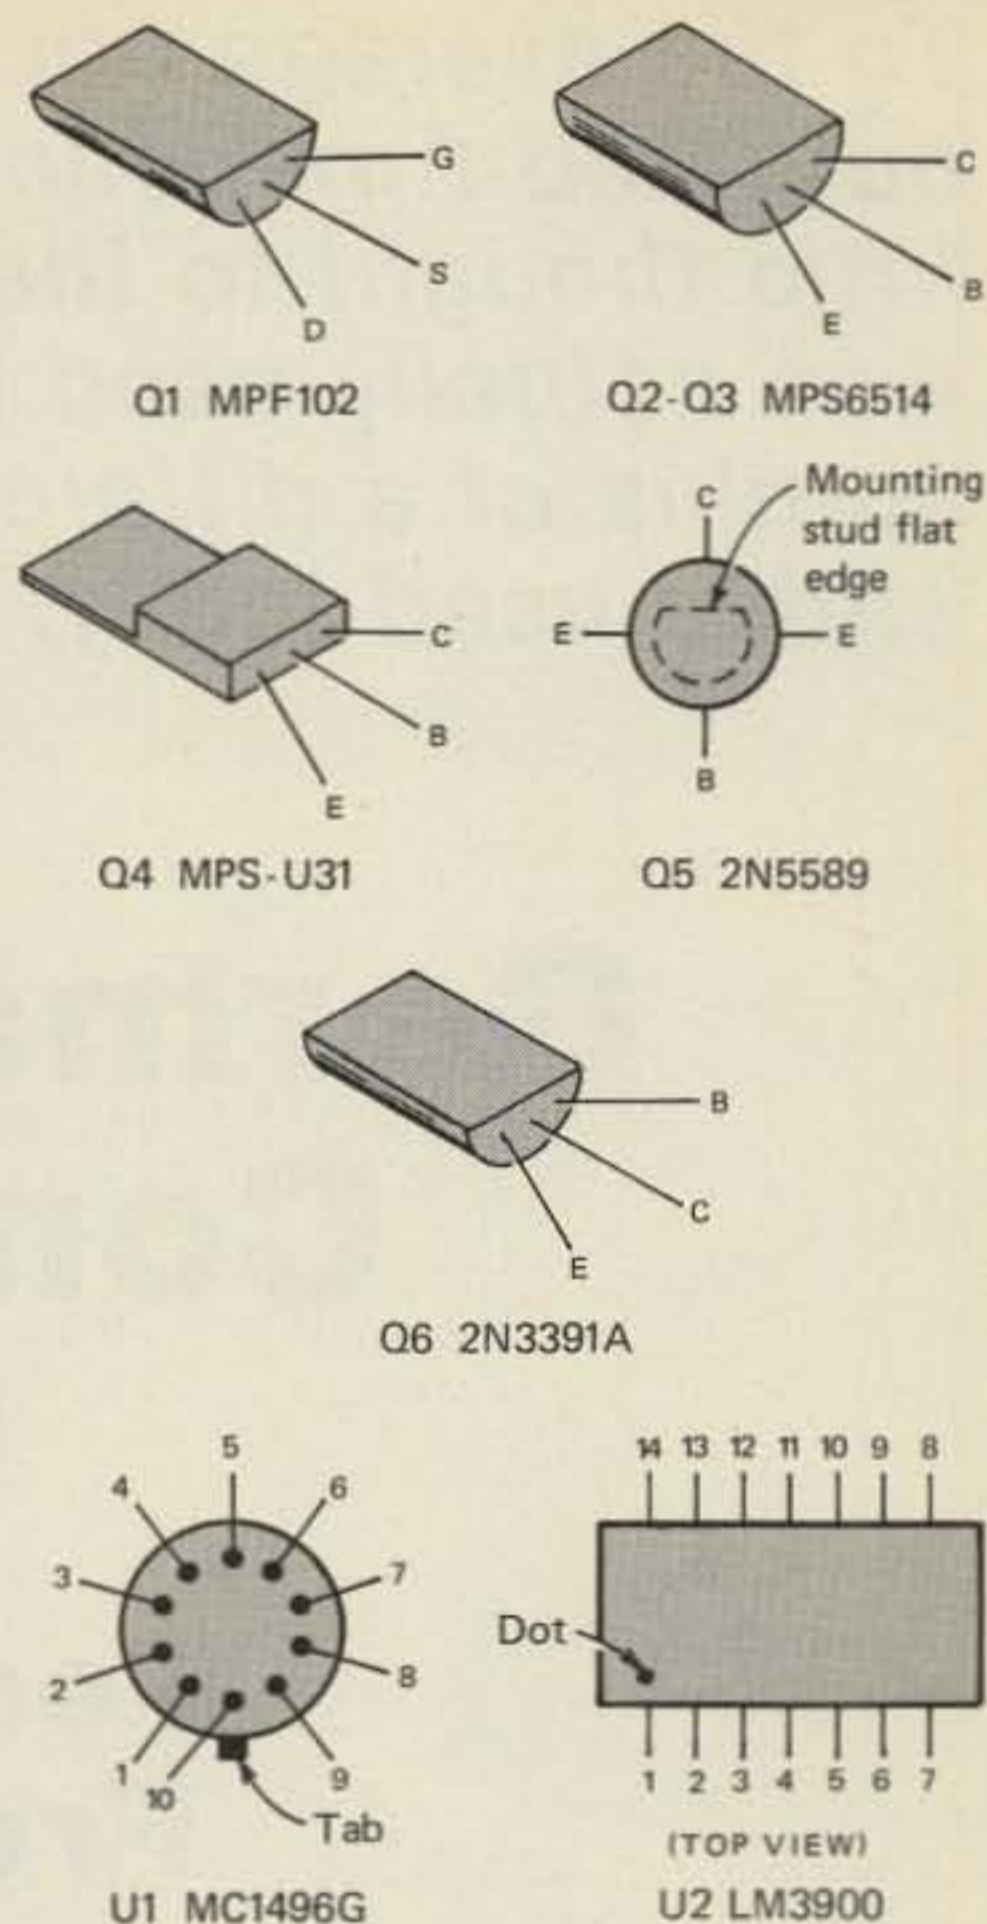
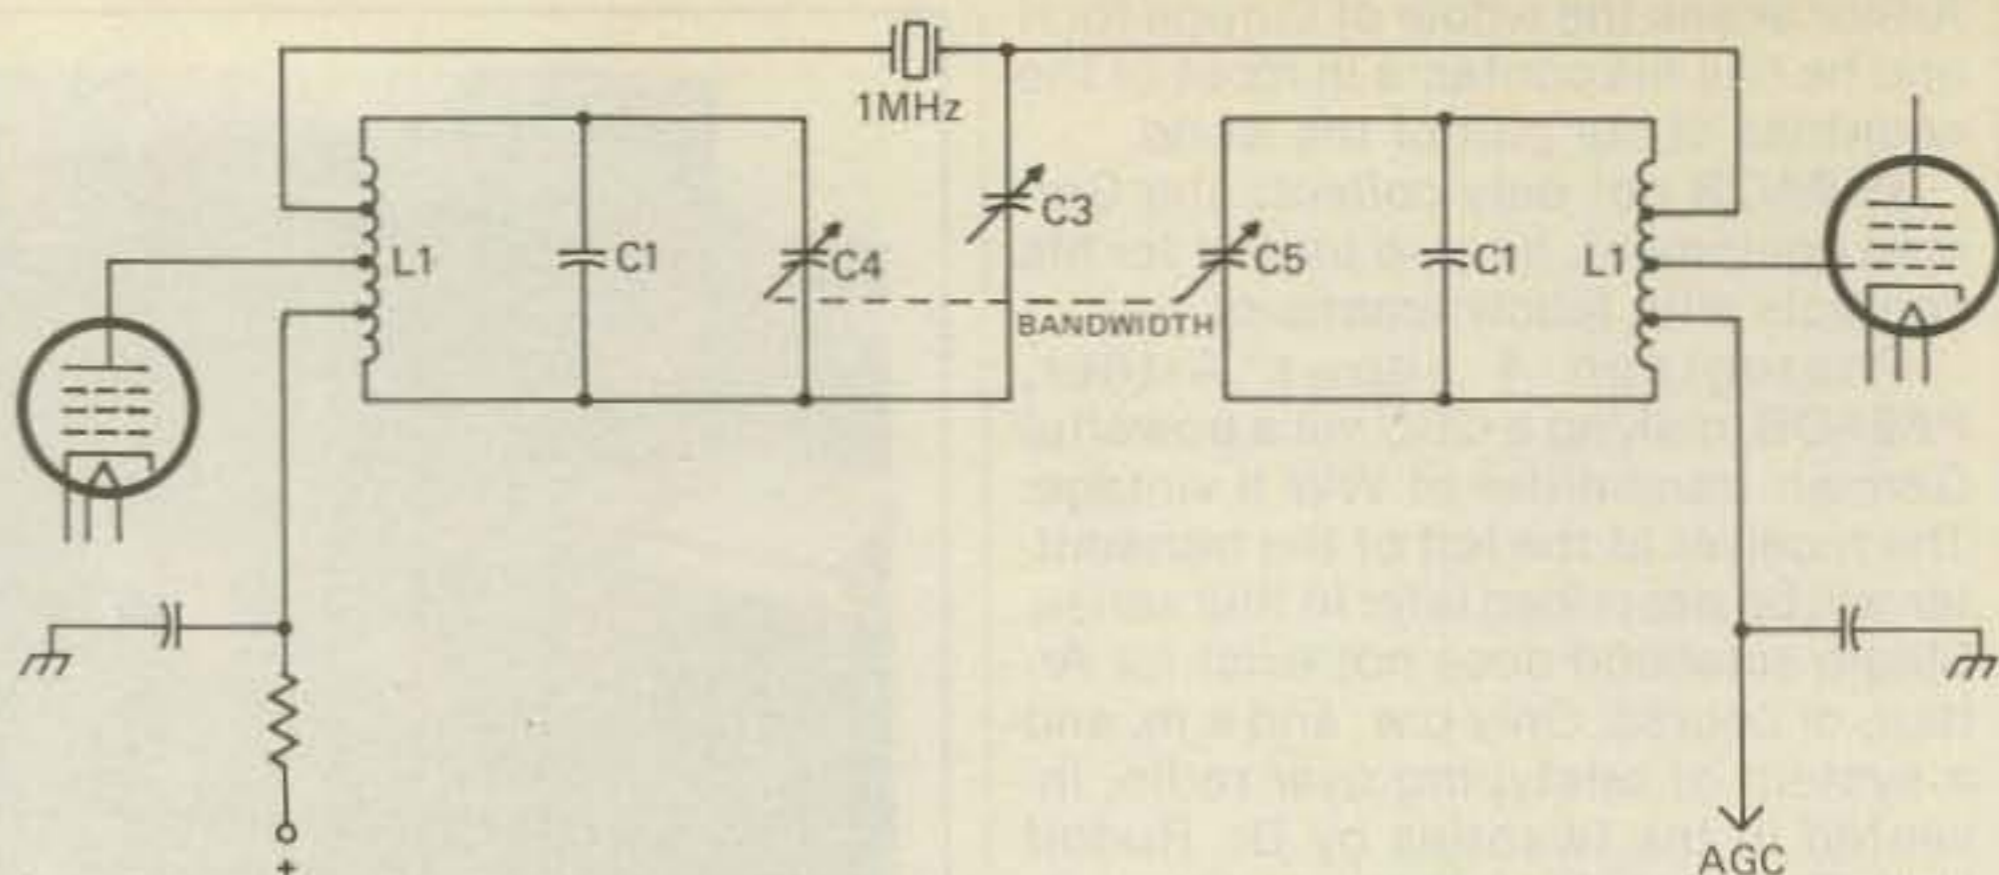
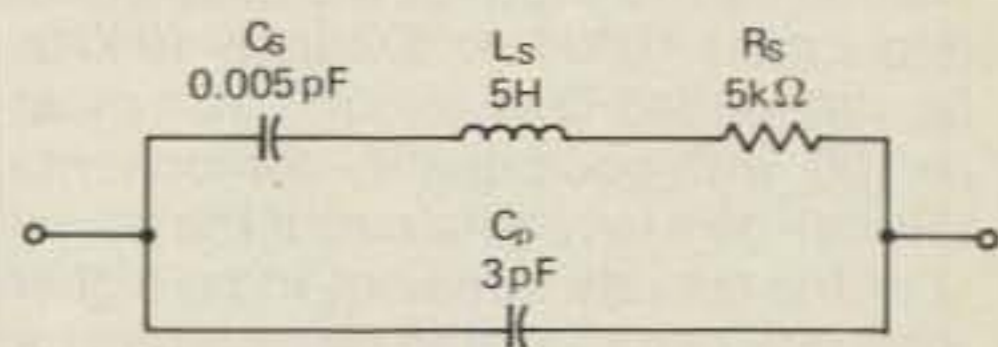

Fig. 3- Active device connections.
Fig. 1- Quartz crystal bandpass filter with variable bandwidth as can be found in several German World War II superheterodyne receivers.
Fig. 4- Equivalent electrical circuit of a quartz crystal resonator. The element values indicated are typical for a 1 MHz crystal.
Fig. 1- This material was first produced for the QRP Column in February, 1979. That Column and others led to this construction project. (A) is the parts placement for the original Viking 5 transmitter pc board. (B) is a full sized template for that transmitter. (C) is the coil winding data for the broadband 1:4 balun transformer, T1.
Transmitter assembly and adjustment can be attempted last. A complete discussion of the transmitter circuit and adjustment was provided in the initial article about the circuit (CQ, February, 1979), and, incidentally, the circuit and p.c.b. design were reproduced in the Vackar v.f.o. article (CQ, April, 1979) with a serious circuit error in the form of the omission of C49!! For adjustment of the transmitter, the above mentioned instruments are useful, and if possible, an oscilloscope is most helpful in monitoring signal purity. First, connect the v.f.o. to the transmitter input with a short piece of coax, and verify that the r.f. voltage appearing at the base of Q4 is roughly equivalent to the figure shown in fig. 1 of Part 1. Momentarily disconnect RFC4, removing B+ from the final, key Q4 while monitoring r.f. output at the antenna terminal and adjust C46 for maximum indication of output across a 52 ohm dummy load. This should be on the order of 0.3-0.6Vrms. If a scope is available, monitor waveform purity during this step and the next. Once C46 is adjusted, reconnect RFC4, and key the transmitter while monitoring r.f. output to the dummy load for signal purity and power level. Power output may be calculated from $P_o = V_{rms}^2/R$, where the square of the rms voltage developed across the load is divided by the resistance of the load. Some readjustment of C46 may be necessary to peak the r.f. output. Parasitics can be detected on the receiver as "hash" or white noise on frequencies above and below the transmitter frequency. If a scope is available, some peaking of output can be accomplished by compressing or spreading the turns of L7 while monitoring waveform purity. In the several versions of this circuit constructed so far, the given values all produced very similar results with respect to power output and signal purity. R33 establishes Q4 stage gain, and with the value shown, r.f. output from
Fig. 3- Constant-K type bandpass filter with component values calculated for a passband of 10 kHz wide and a center frequency of 1 MHz. Note the "impossible" values of the capacitor and coil in the series tuned circuit.
The circuit diagram of this filter is shown in fig. 1. The filter is positioned between i.f. amplifier tubes. A second filter of the same configuration follows the tube on the right. Upon casual inspection one could easily conclude that this filter is of the familiar type to be found in many popular American communication receivers and introduced in the early thirties by James Lamb in his "Single Signal Superhet." These filters feature a sharply peaked response plus a rejection notch that can be moved up and down in frequency by means of "phasing capacitor" C3. But this conclusion would not be correct. The German filter exhibits a real bandpass response, that is to say a flat passband and symmetrical filter slopes at the transitions between pass and stopbands. How is it possible to realize such a response with just a single quartz crystal resonator?
In fig. 3 a constant-K bandpass filter is shown that has been designed for a center frequency of 1 MHz and a pass band of 10 kHz wide, just as the crystal filter in the "Köln" receiver. The component values for L1 and C1 have been taken equal to L1 and C1 in fig. 1 for the "Köln" filter. Now look at the series resonant circuit L2C2; don't C2 and L2 have "impossible" values? Indeed, especially L2 could never be constructed with a self-inductance of 3.6 henry at 1 MHz. To produce a capacitor of 0.007 pF isn't simple either. But wait, let us take a look at the equivalent electrical circuit of a quartz crystal resonator, as shown in fig. 4. This consists of a series tuned circuit and a parallel capacitor that represents the capacitance of the crystal electrodes. The values for the elements of the equivalent circuit shown in fig. 4 are typical for a 1 MHz crystal. These values are very near to those of the series circuit C2L2 in fig. 3! So it looks like we could replace C2L2 by a suitable quartz crystal and so obtain a bandpass filter at 1 MHz with a 10 kHz wide pass band. But what about the earlier statement that the elements of a constant-K filter were supposed to be without losses? R_s of 5 kilo-ohms in fig. 4 certainly looks like a high loss. But be careful with that conclusion; what really matters is the Q of the series tuned circuit. And Q is equal to the reactance of C_s or L_s at 1 MHz, divided by R_s . And that works out to a Q of 6280. That value is so high that the crystal, acting as the series tuned circuit, can be considered lossless. And how about the losses in the parallel
tuned circuits L1C1? The coils in these circuits certainly don't have such a high Q that they can be considered to be without losses. But as shown in fig. 3, these circuits have to be loaded by resistors of 113 kilo-ohms, and part of this loading can be provided by the loss of the circuits themselves. Isn't that beautiful? The loaded Q of the parallel tuned circuits has to be equal to the center frequency f_0 of the filter, divided by the width of the pass band. In our case 1000 kHz divide by 10 kHz. So the loaded Q of circuit L1C1 must be 100. with good quality components this can be easily obtained. If the actual Q of the circuits turns out to be higher than 100, extra loading by resistors (or by the output impedance of the preceding tube and the input impedance of the following tube!) can be provided.
So now that we have seen how the single crystal filter can really work as a bandpass filter let us go back to fig. 1, the filter of the "Köln". We see several extra components, as compared to fig. 3. In the first place the crystal is not connected between the upper ends of the parallel tuned circuits, but between taps on the coils. This is done because it would be very difficult, if not impossible, to manufacture a quartz crystal resonator where the parameters of the electrical equivalent circuit have exactly the values required. So in practice the crystal is measured to find out what the actual values of C_s and L_s are and then the proper tap on the coil is computed.
Caspers, PA0CSC, who calculated the response of a filter according to fig. 1 with the values of C_s and L_s of the crystal inserted on a digital computer. The calculated response conforms very closely to the measured one.